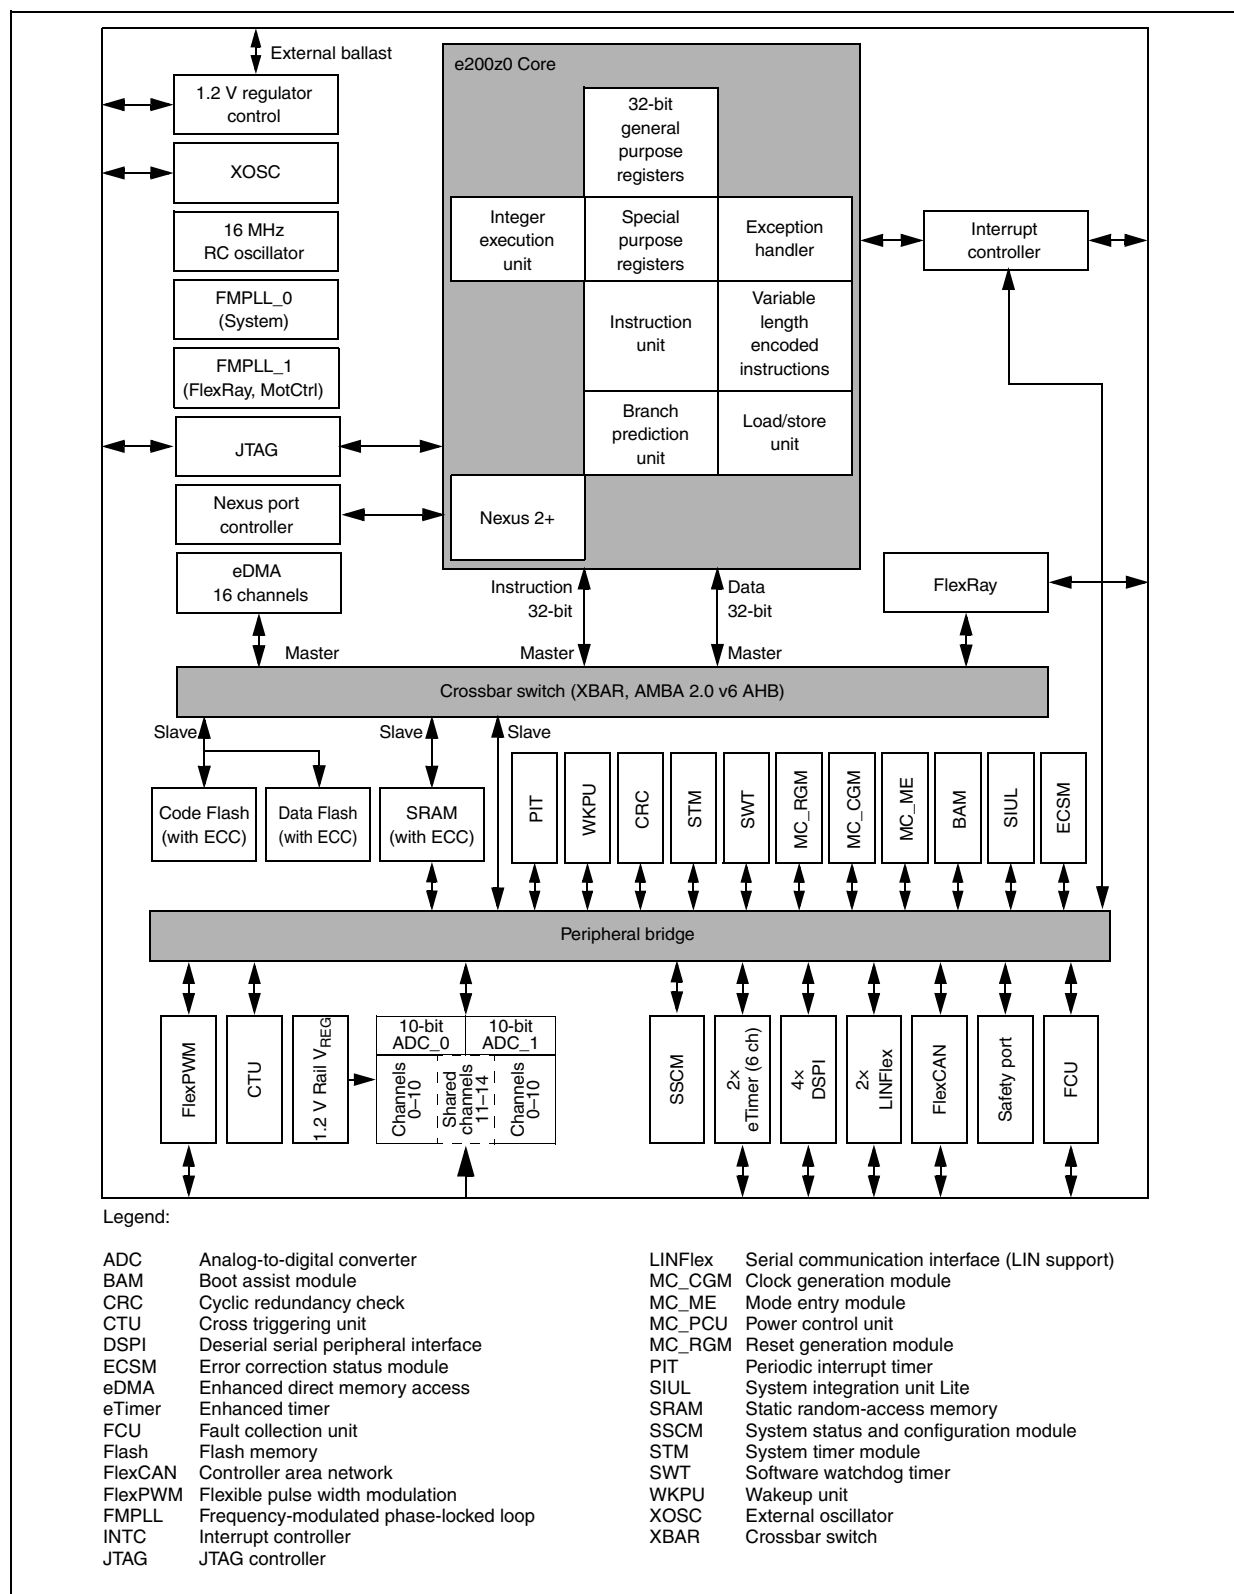

Figure 1. SPC560P44Lx, SPC560P50Lx block diagram
*Figure 1* shows a top-level block diagram of the SPC560P44Lx, SPC560P50Lx MCU.